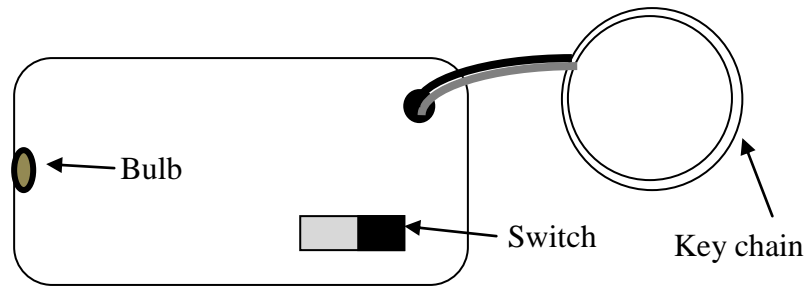

Figure 1
- e. Figure 1 shows a simple idea for the casing of the light device. The size of the casing are 60mm x 30mm. **Label the dimensions on the figure below:**